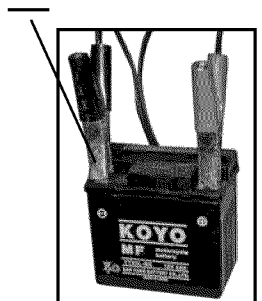

Figure 25
2. Connect the black negative (-) cable to the black negative (-) pole of the battery. (see figure 25)